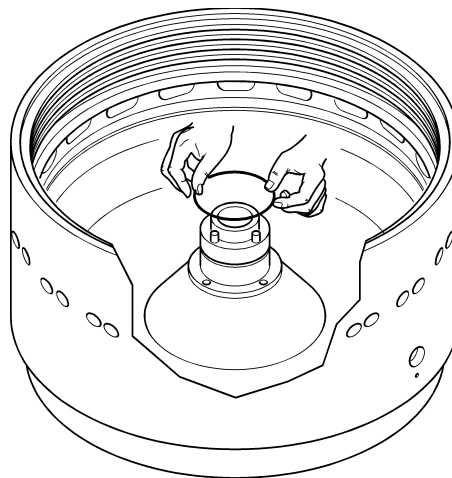

Figure 6.3
- 2) Carefully clean the grooves of bowl hub and insert the OR gaskets (Fig. 6.3).